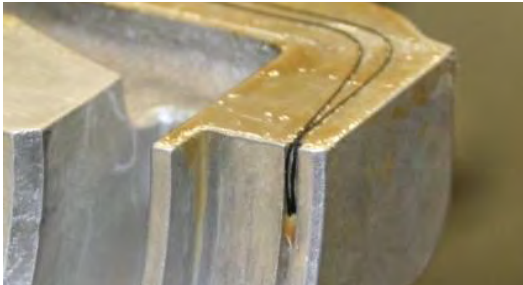

Figure 81
- (4) All continuous silk thread lengths must extend not more than ¼-in. (6.35 mm) beyond the front and rear end of the crankcase half. Figure 81 shows the thread overhang extension into the seal groove on the front end of the crankcase half. Figure 82 shows the silk thread overhang extending from the rear of the crankcase half.